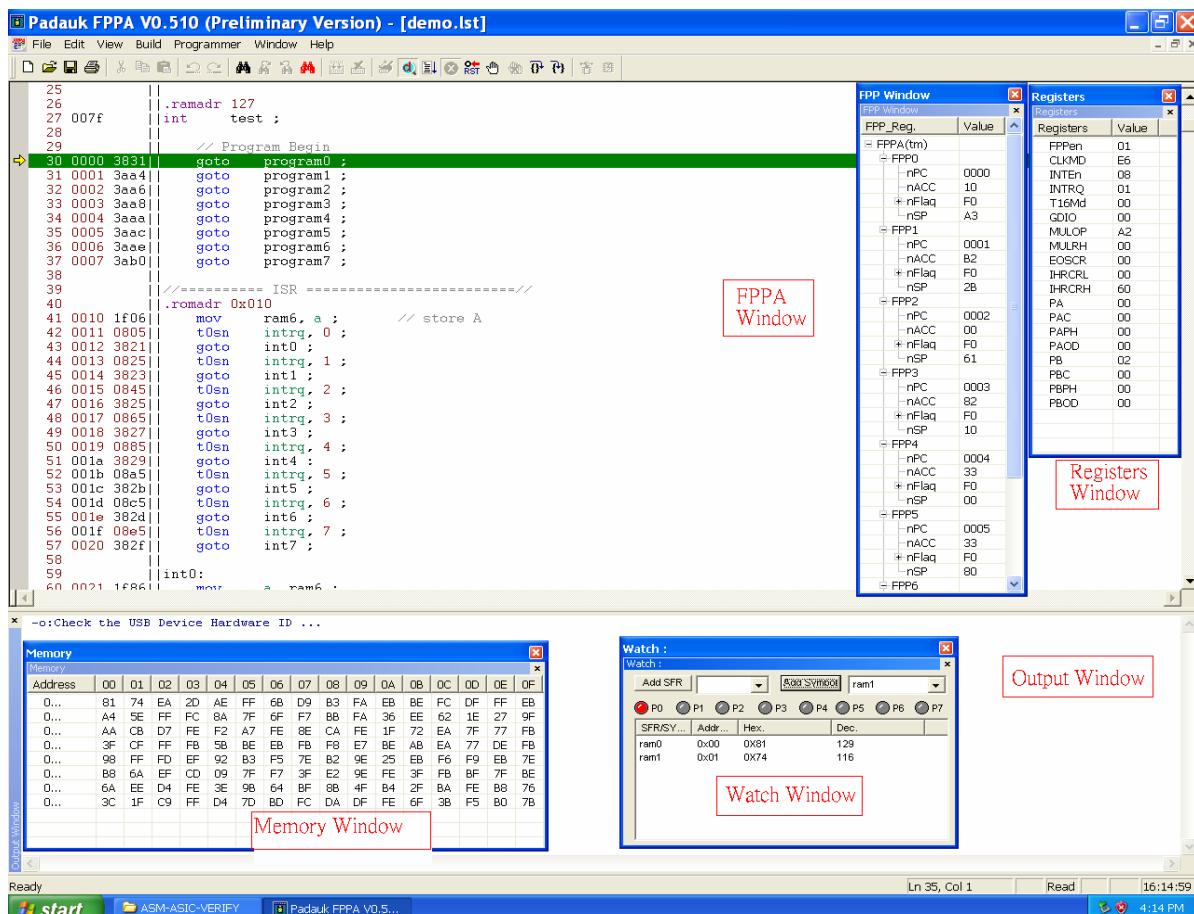

Fig.4-4 : Window for Debug Mode
Step 3 : Click  to start the debug mode and open the list file (DEMO.lst) . Besides "Output Window" , "FPPA Window" 、 "Registers Window" 、 "Memory Window" and "Watch Window" can be selected from "View" menu , in order to debug the program easily , the screen will be like Fig.4-4 if all the windows are opened . The "FPPA Window" shows the status for each FPP unit , the "Registers Window" shows the status of registers inside the chip , the "Memory Window" shows the value of internal data memory and the "Watch Window" is used to monitor the value of selected names which are specified by user . In the "Watch Window" , you can monitor that the current breakpoint belongs to which FPP unit . The program halts at the reset vector after entering the debug mode , a green line with yellow arrow indicates where the program counter is .